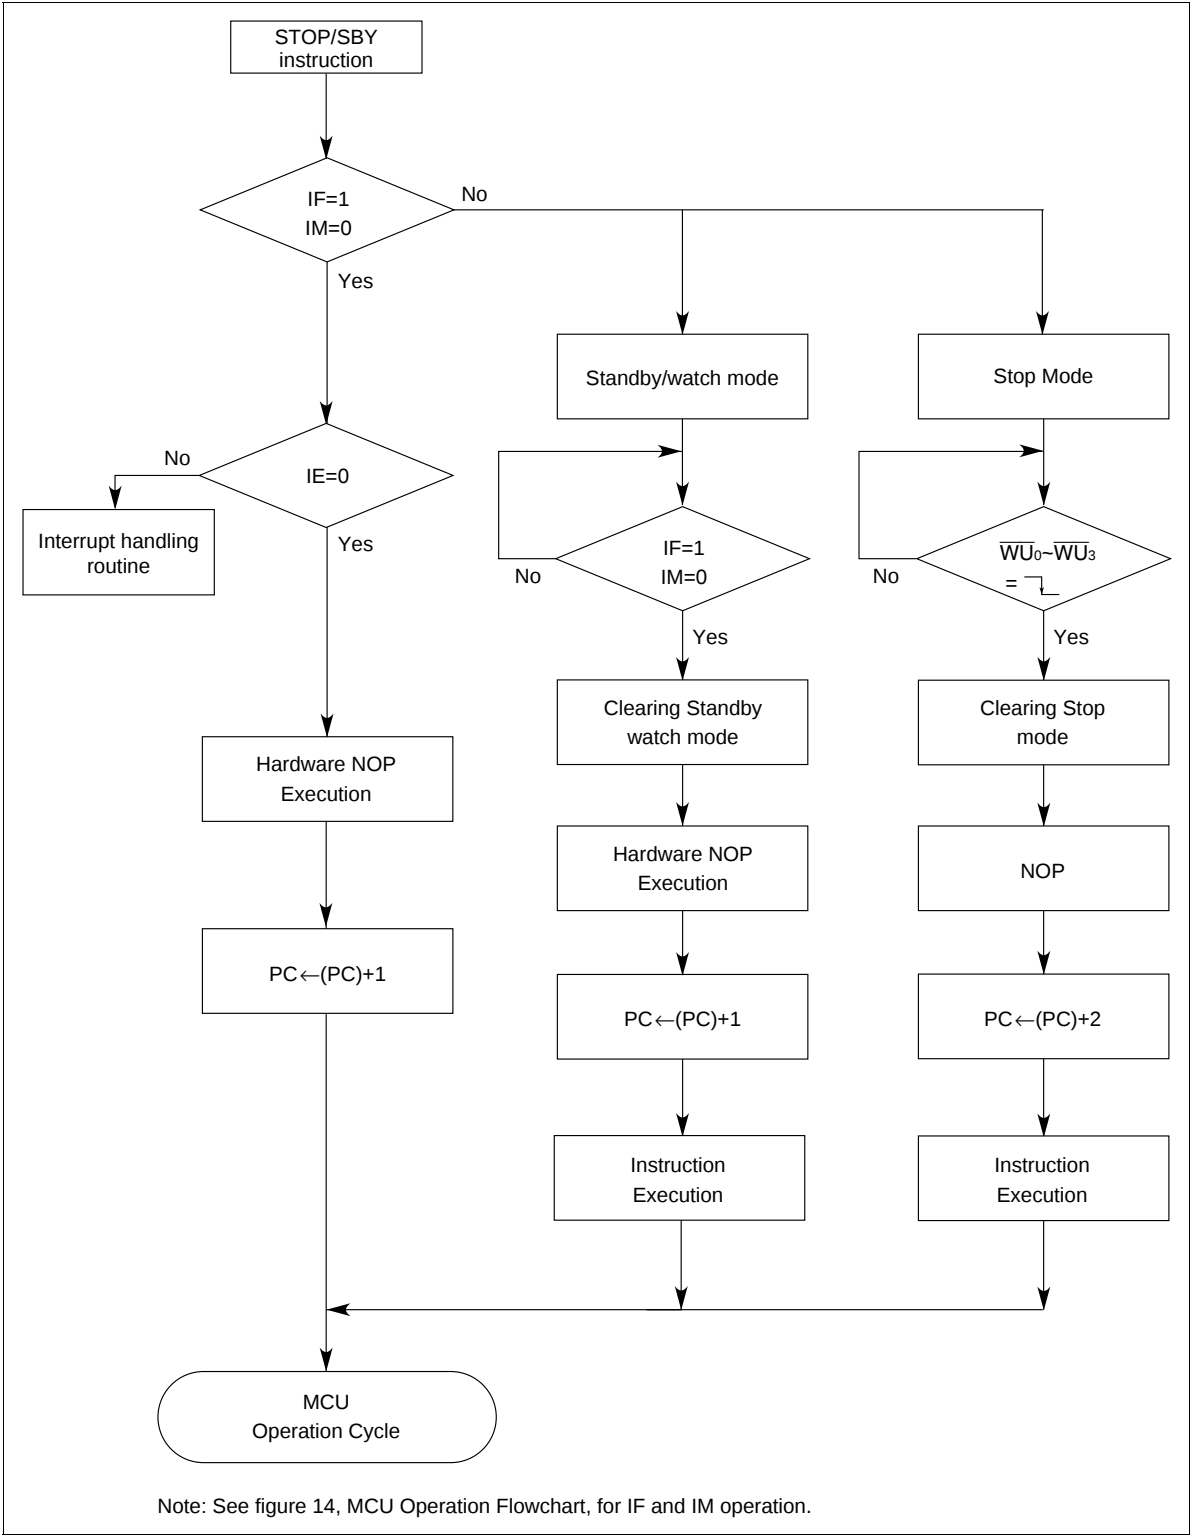

**Figure 18 Direct Transition Timing**
- (c) After the lapse of the MCU internal processing time and the oscillation settling time, the MCU automatically switches from subactive mode to active mode (figure 18).